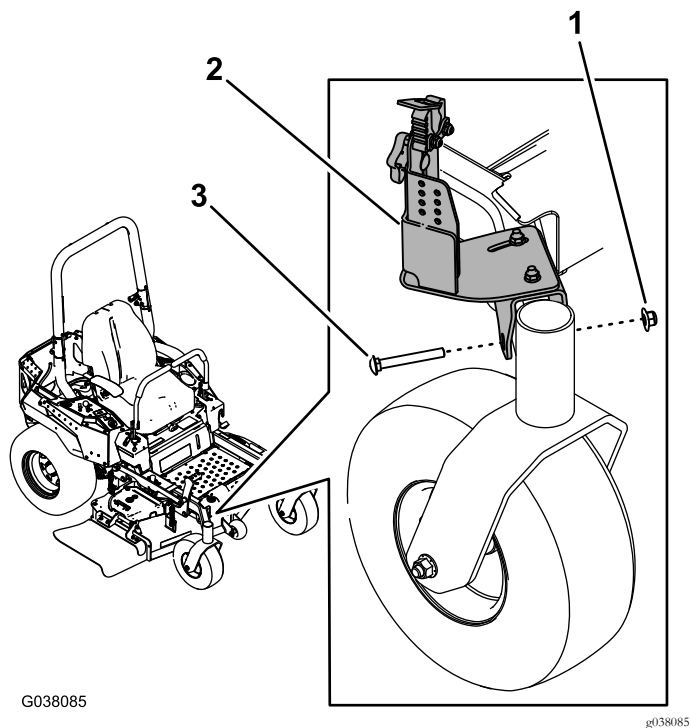

Figure 6
2. Install the front mount assembly over the frame, near the right caster wheel, using the wide-flange nut (3/8 inch) and carriage bolt (3/8 x 3 inches) as shown in Figure 6.